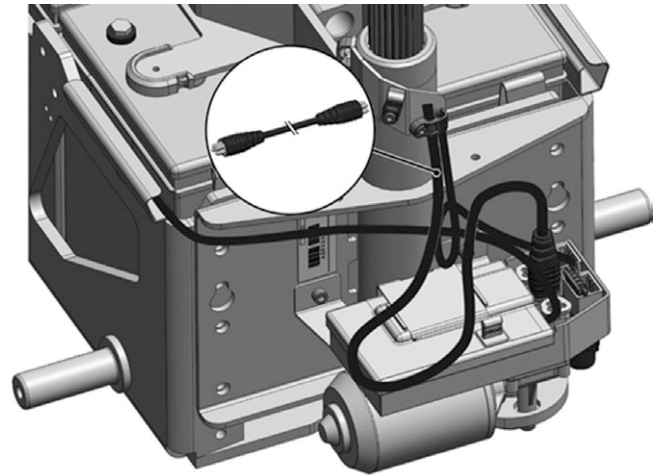

Figure 150. The bus cable is connected to the ICS Master Module.
14. The bus cables are connected to the ICS Master Module. See fig. 150.